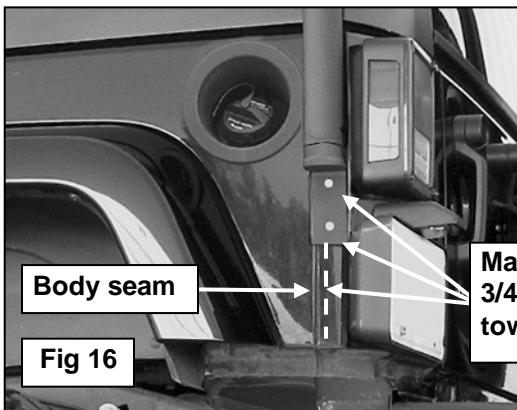
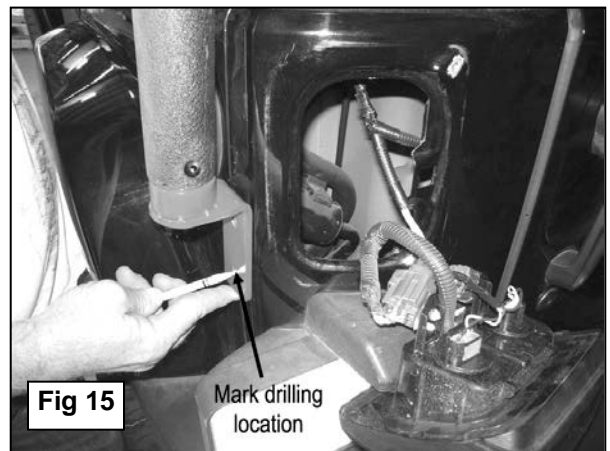

Fig 16
Fig 15
19. Align the Side Rails parallel with the roof of the vehicle, and then use the holes in the Short Bottom Bracket as a template to mark the drilling location on the vehicle, (**Figure 15**). **NOTE:** Center of the holes must be 3/4" from body seam, (**Figure 16**).